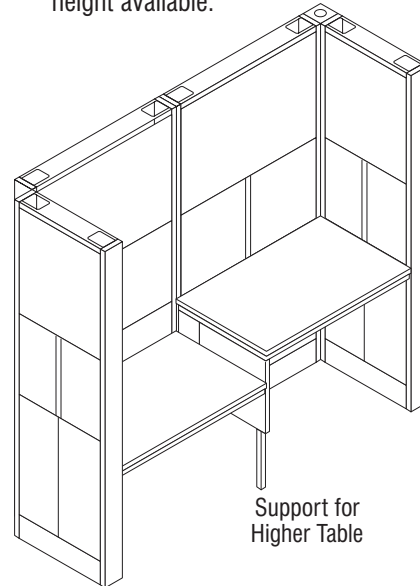

Figure 1-9
7. When two cantilevered work surfaces are next to each other but at different heights, the higher of the two work surfaces must be supported at that juncture. See Figure 1-9.